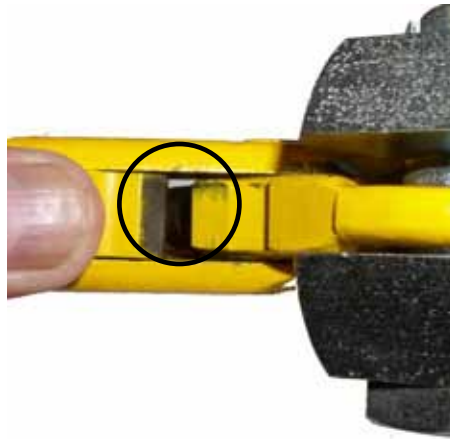

Figure 11. Examine Gate Lock Latch for rounding.
- Check lock latch for rounded edge. See Figure 11.